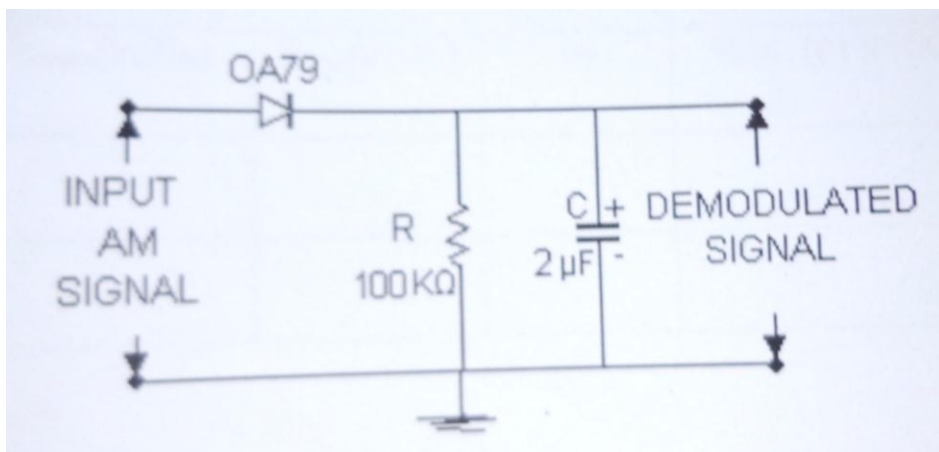

Fig. 2. AM Demodulator
9. Connect the circuit diagram as shown in Fig.2.